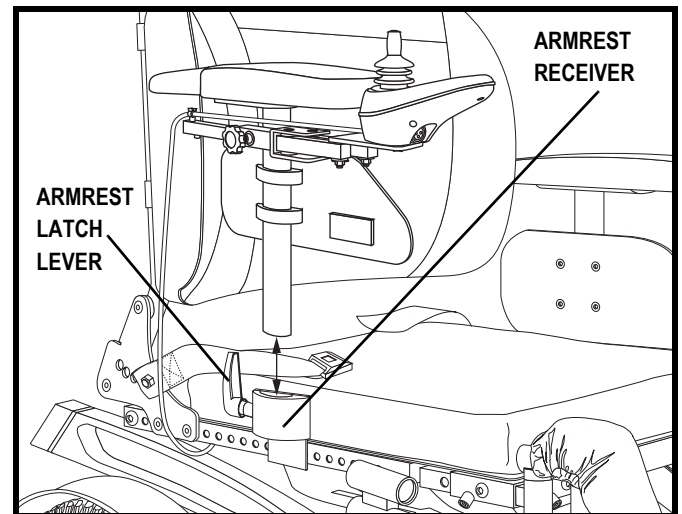

Figure 16. Armrest Removal/Installation
1. Loosen the armrest lever by pushing the armrest lever in and rotating the lever simultaneously. **See figure 16.**
1. Place the armrest assembly into the armrest receiver. **See figure 16.**
1. Loosen the armrest latch lever. **See figure 16.**
2. Remove the armrest. **See figure 16.**